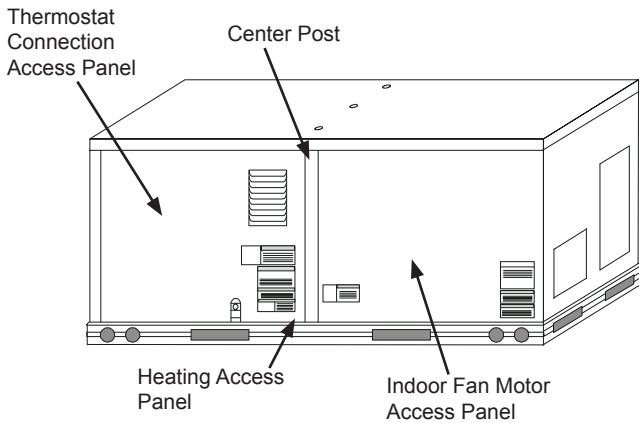

Fig. 9 - Typical Indoor Fan Motor Access Panel Locations
13. Remove the indoor fan motor access panel. (See Fig. 9.)